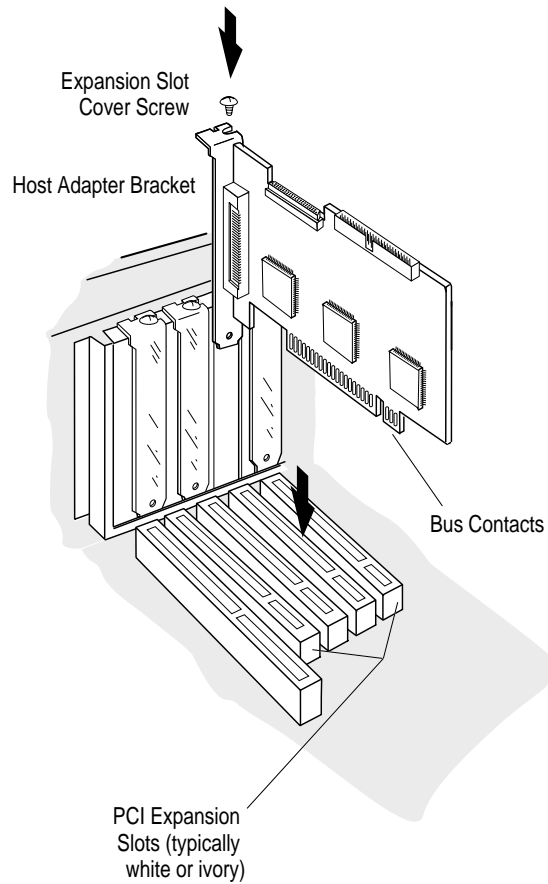

Figure 2-3. Installing an AAA-131CA in a PCI Expansion Slot
- 4 Insert the AAA-131CA adapter in the PCI slot, as shown in Figure 2-3. Press down firmly so that the PCI bus contacts are securely seated in the slot. Secure the adapter bracket with the screw you removed in Step 3.